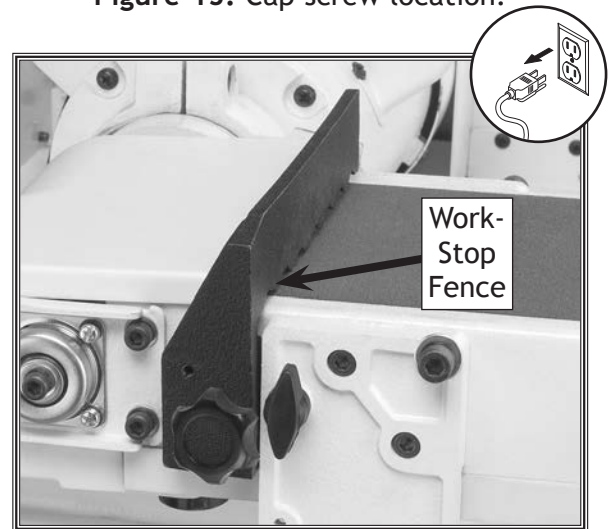

Figure 16. Flat sanding operation.
5. Install the work-stop fence (shown in **Figure 16**) to prevent the workpiece from running off the end of the sander.